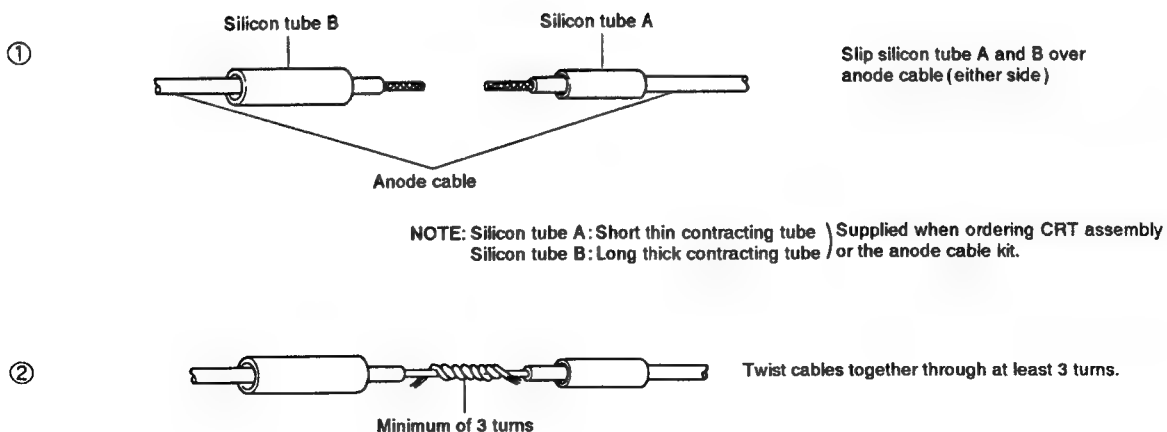

Fig. 5-4-1 Anode cable joining procedure (1)
- The silicon adhesive is applied to guard the cable core leads from external air. Apply binder liberally. After completing the joint (at step ⑩ in Fig. 5-4-1 thru 3), check that there is no hole in the silicon binder and the tube interior cannot be seen.